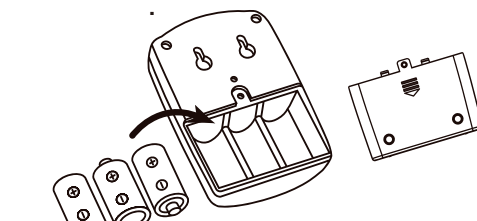

Fig.5
- Install three "C" batteries in the receiver. (Fig.5)